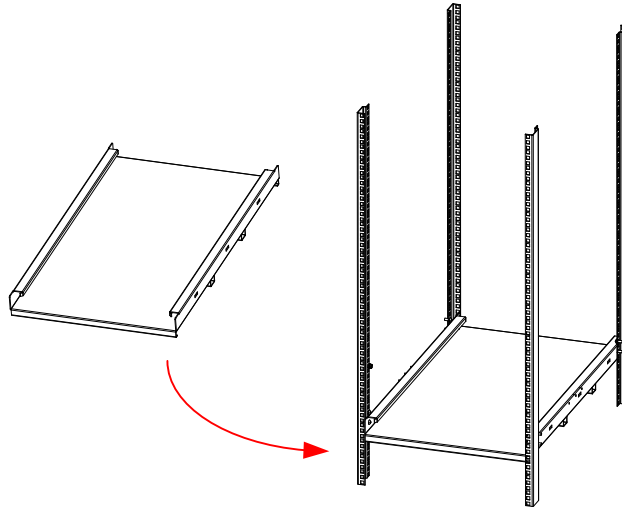

Figure 3-9 Install rack tray
4. Install rack tray on the server cabinet, as Figure 3-9 shows ;